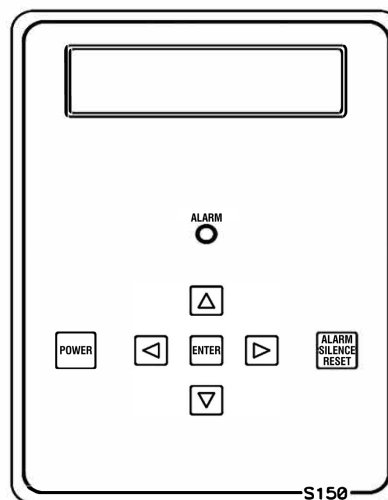

FIGURE 1
1. Refer to Figure 1 for the location of the keys used to display or change the setpoints, and the Electrical Schematics in this manual for the location of the write protect jumper, J3. For the unit to be able to accept a change in a setpoint, the shorting jumper must be in the OFF position (center and left pins).
3. The up and down arrow keys are used to increment or decrement the setpoint value. The value will change by one (1) count each time a key is pressed. If the key is pressed and held for approximately one (1) second, the setpoint value will change at a fast rate. When the key is released, the fast rate will be reset. Pressing both the up and down arrow keys together will reset the setpoint value to zero (0).